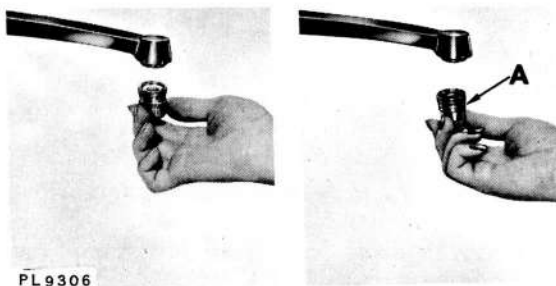

Fig. 6
Faucets with External Threads (Fig. 6)
2. Screw adapter (A, Fig. 6) furnished in kit, to faucet.